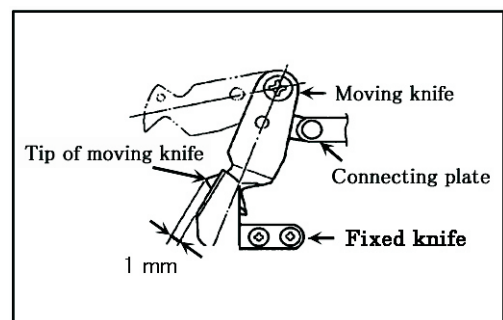

Fig.4
(1) Move the connecting plate by hand, and let the moving knife point protrude about 1 mm from the fixed knife.(Fig. 4)